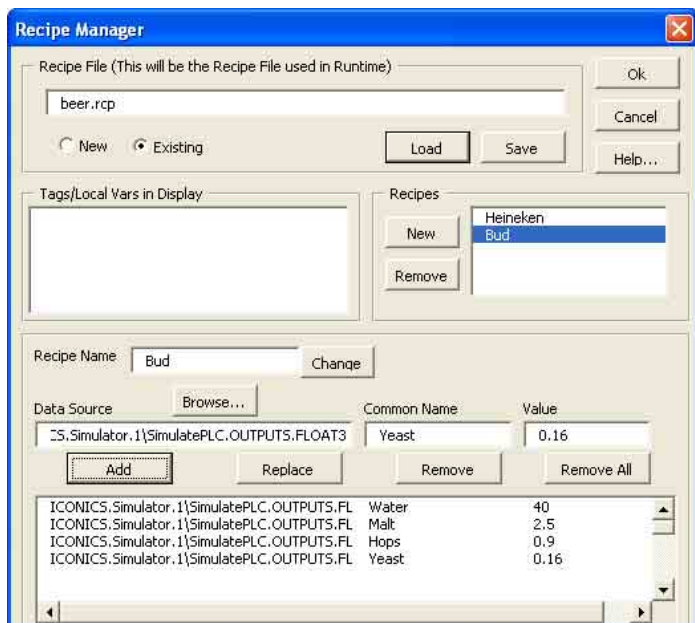

Fig. 4: Bud Beer Recipe
12. The end result will look like Fig. 4.